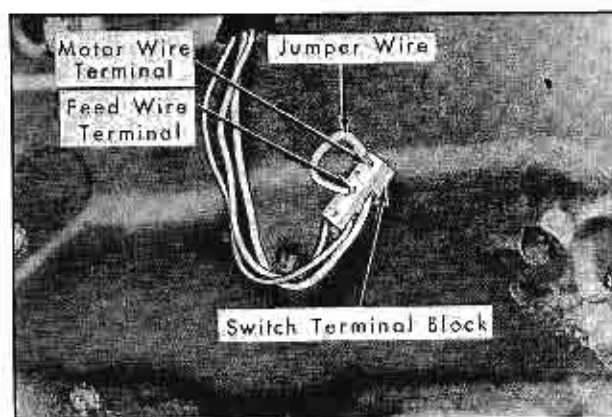

Fig. 3-92 Checking Door Window Switch Operation
1. Place a #12 jumper wire on the switch terminal block between the center terminal (feed) and one of the two motor wire terminals Fig. 3-92. If motor operates the switch is defective.